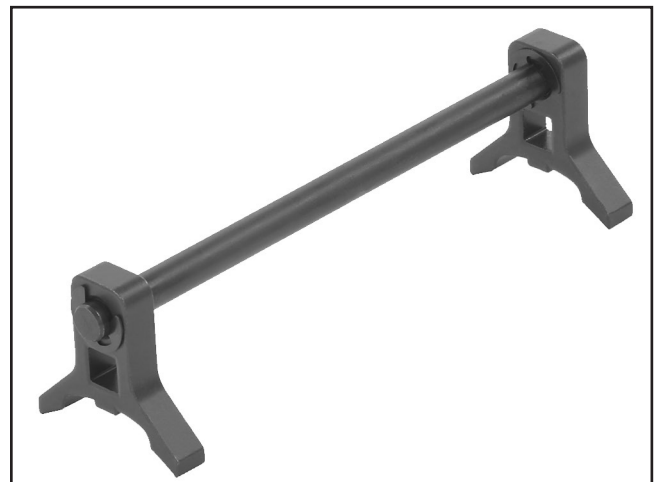

Figure 16. Knife setting gauge assembly.
- Assemble the knife setting gauge using the knife setting gauge rod, feet and 8mm e-clips, as shown in **Figure 16**.